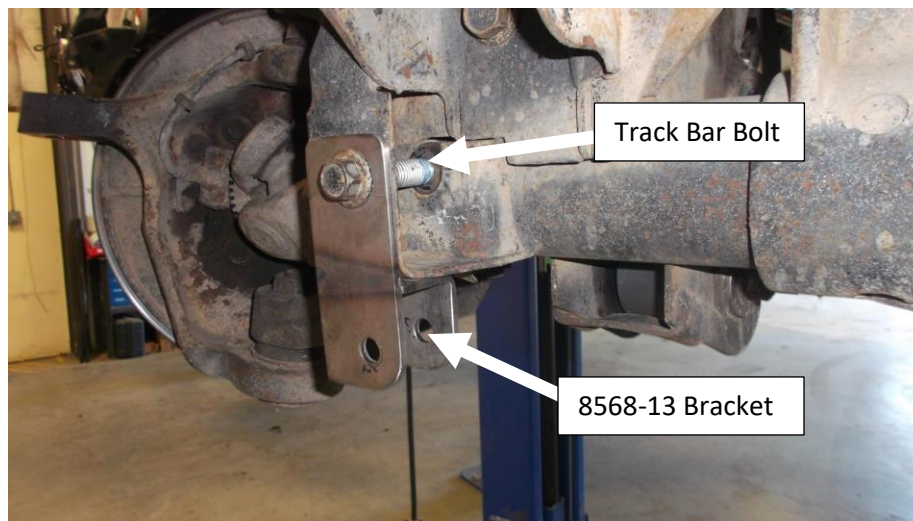

Figure 7. 8568-13 Steering Stabilizer Bracket Installed
8. Install the 8568-13 Stabilizer Bracket as shown. Re-install the axle side track bar bolt as shown below to align the bracket. See **Figure 7**.